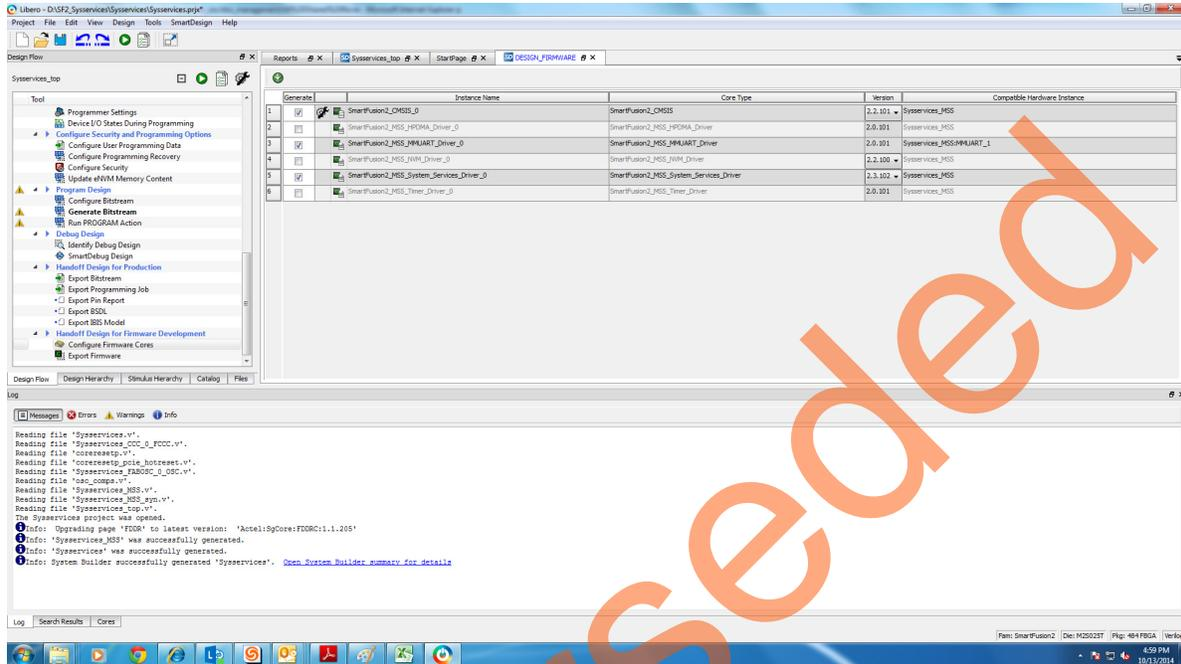

Figure 12 • DESIGN\_FIRMWARE Window
2. Clear all drivers except CMSIS, MMUART\_0, and System Services as shown in Figure 12.